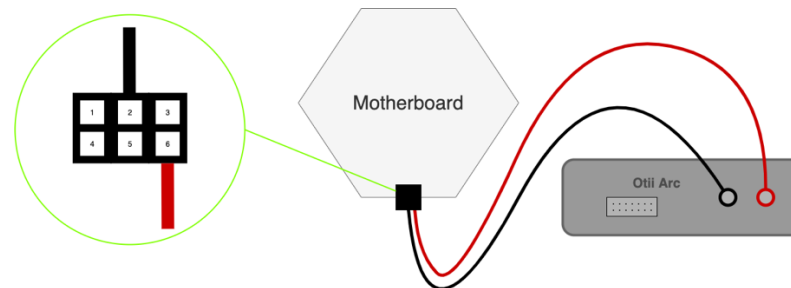

Figure 6 Connect the motherboard and the Otii ARC
1. Plug the motherboard and the *Otii ARC* according to the scheme fig.6 (refer to annex A in order to understand how to configure the measuring device *Otii ARC*).